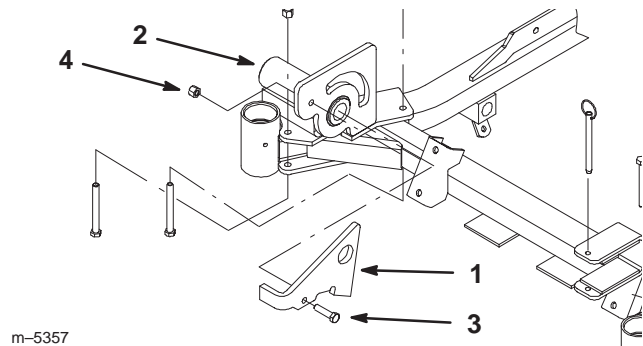

Figure 1
1. Install the bracket latch to the Z-Stand hub with a bolt (3/8 x 1-1/2 in.) and lock nut (3/8 in.) (Fig. 1).
Note: Tighten the nut and bolt. Then, unscrew it one full turn or until the latch will freely rotate (Fig. 1).